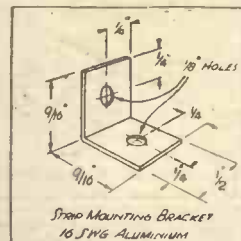

Fig. 4.—Two of these brackets are used to fix the terminal strip to the top of the "Easy-Cabinet."
(F) Mark out and drill the terminal strip as Fig. 3. Prepare two mounting brackets as Fig. 4.